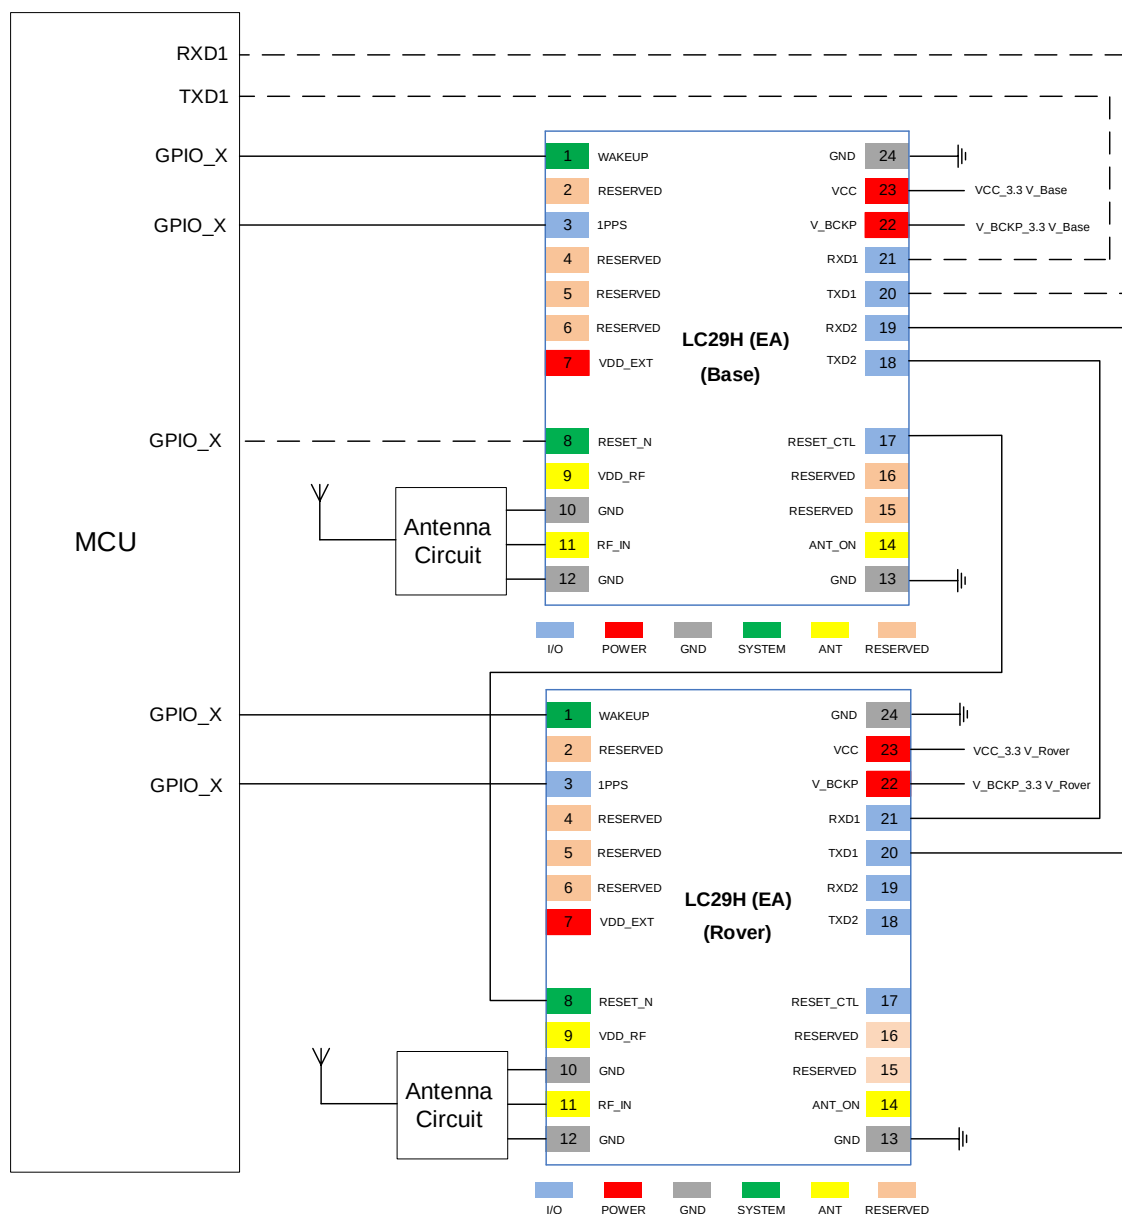

Figure 2: Schematic Diagram of Connection Between Base and Rover
In the LC29H (EA) dual modules, one can be selected as a base and the other as a rover, to achieve moving base application. The rover communicates with the UART2 on base via UART1 and you can download the software files via UART1 on base. For details about the connection between two modules, see Figure 2: Schematic Diagram of Connection Between Base and Rover.